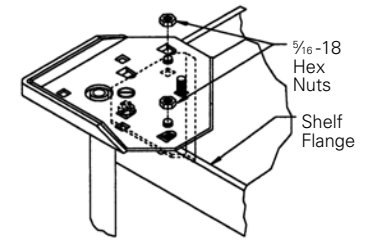

Figure 4
4. Insert two ⅝ -18 x ¾ carriage bolts through the bolt plate and caster bracket from beneath the bolt plate. Using two ⅝ -18 hex nuts, tighten these bolts along with the ⅝ -18 x 1 flat head screw installed previously. Tighten all three bolts securely, flattening the shelf flange. (Figure 4)